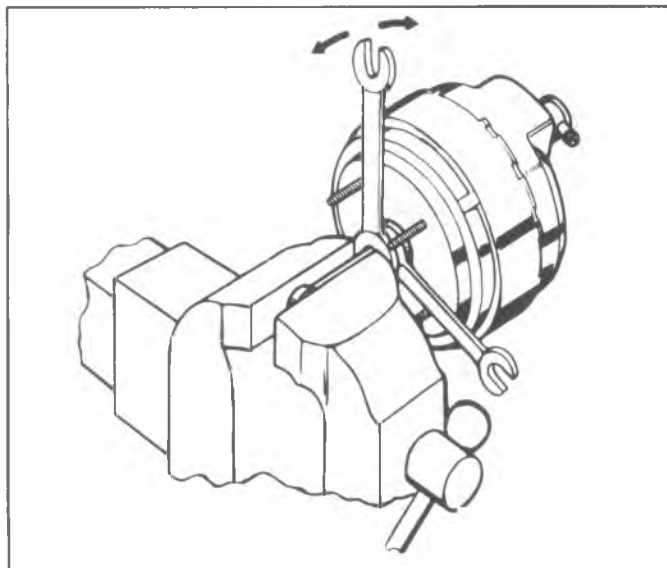

Fig. 5-1B--Removing Air Valve Rod
7. Position two small blocks of wood on either side of air valve rod and install end of air valve rod in vise, leaving just enough clearance to position two (2) open end wrenches between the vise and retainer on hub of rear plate.
8. Using the wrench nearest the vise as a pry, force the air valve off the ball end of the rod. DO NOT damage the plastic hub or allow vacuum cylinder to fall to the floor (fig. 5-1B and 5-2B).